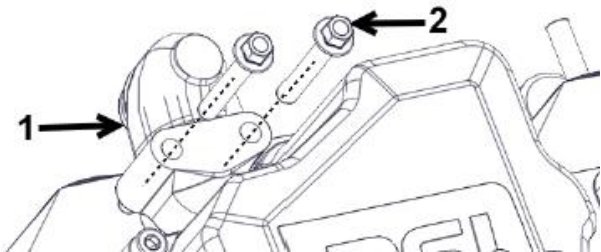

Figure 44.
- 1. Remove the two bolts (Figure 44, Item 2) from the pipe and remove the pipe (Figure 44, Item 1) from the cylinder head.